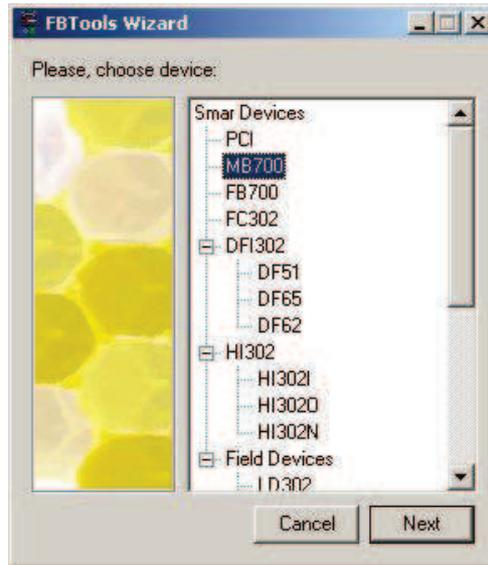

Figure 2.7 – FBTools Wizard – Choose Device
12. Select the **MB-700** device and click **Next**. See the Figure 2.7 below.